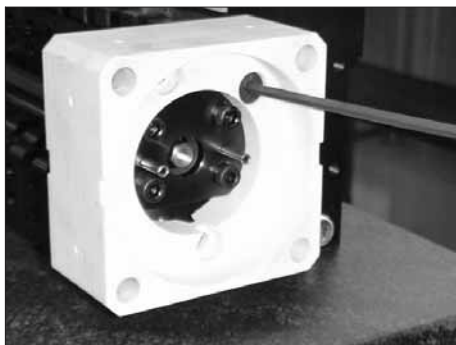

Figure 7-96 Removing the drive adapter
2. See Figure 7-96. Using an M4 hex wrench, remove the drive adapter (three shoulder bolts).